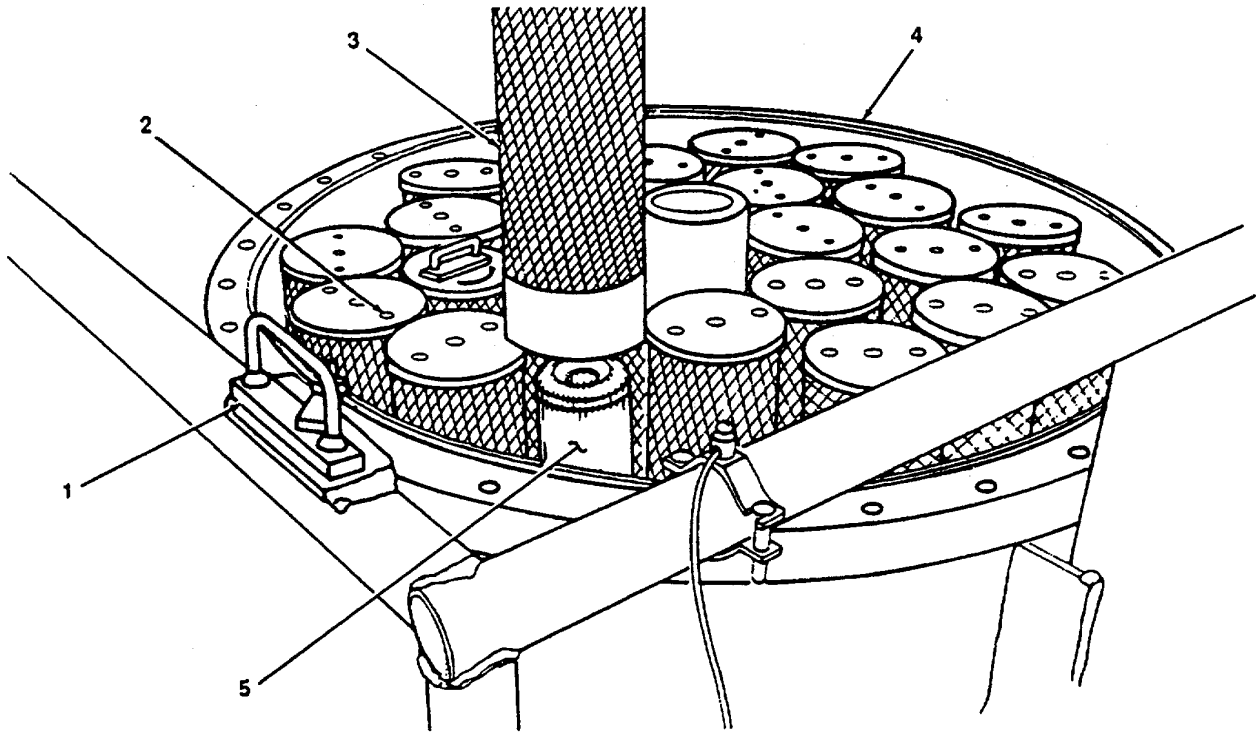

Figure 4-6. Filter Canister and Element, Removal and Installation.
a. Removal. (figure 4-6)
- (1) Insert spanner wrench (1) into two holes (2) on top of canister (3).
- (2) Turn spanner wrench (1) 1/4 turn counterclockwise.
- (3) Lift canister (3) out of tank (4).
- (4) Inspect filter element(s) (5) for dirt build-up.
- (5) Discard dirty filter element.
b. Cleaning. (figure 4-6)
c. Installation. (figure 4-6)
- (1) Insert new filter element (5) in place.
- (2) Place canister (3) or filter element in tank (4).
- (3) Turn canister (3) 1/4 turn clockwise.